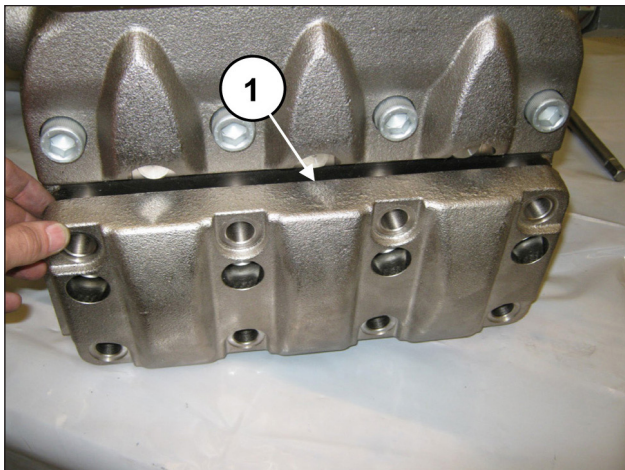
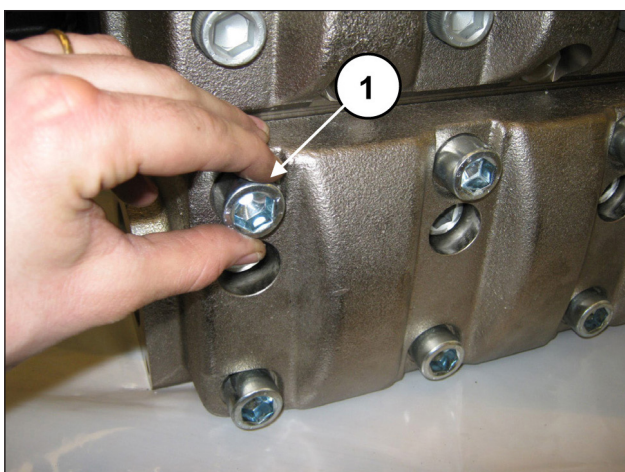

Fig. 154
Fig. 155
After having completed assembly of the suction valves units, apply the suction valves cover (pos. ①, Fig. 154) and screw in the 8 M18x65 screws (pos. ①, Fig. 155).